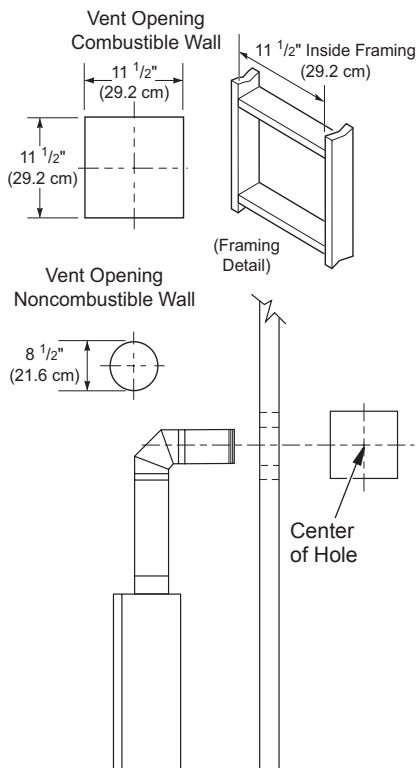

Figure 12 - Vent Opening Requirements
5. Carefully determine location where vent pipe assembly will penetrate outside wall. Center of hole should line up with center line of horizontal vent pipe. Mark wall for a 11 1/2" x 11 1/2" square hole. Cut and frame square hole in exterior wall where vent will be terminated. If wall being penetrated is constructed of noncombustible material, such as masonry block or concrete, a 8 1/2" hole with zero clearance is acceptable (see Figure 12).